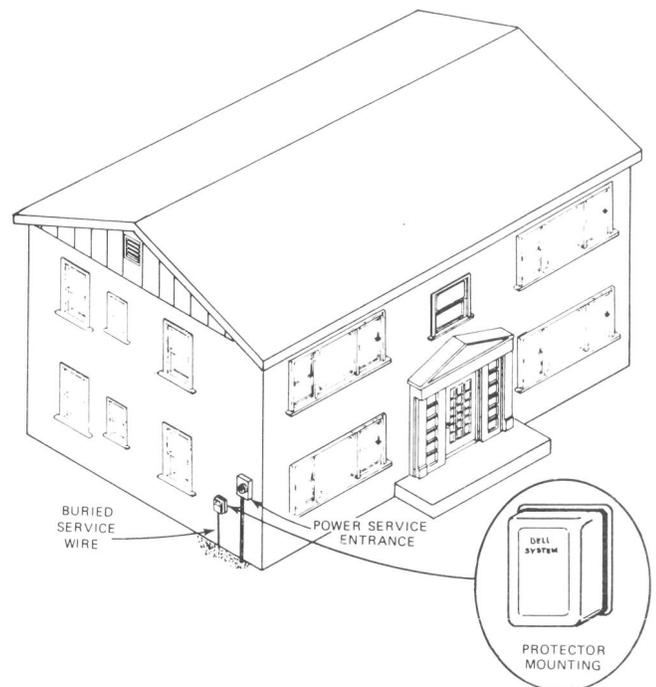

Fig. 36—Recommended Location of Station Protector
10.01 Locate station protectors on exterior building walls following the guidelines listed below (see Fig. 36):